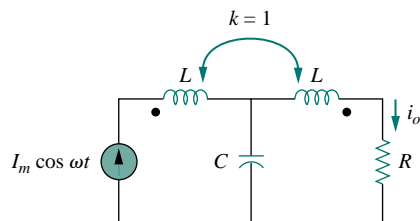

Figure 13.79 For Prob. 13.9.
- 13.9 Find I_o in the circuit of Fig. 13.79.